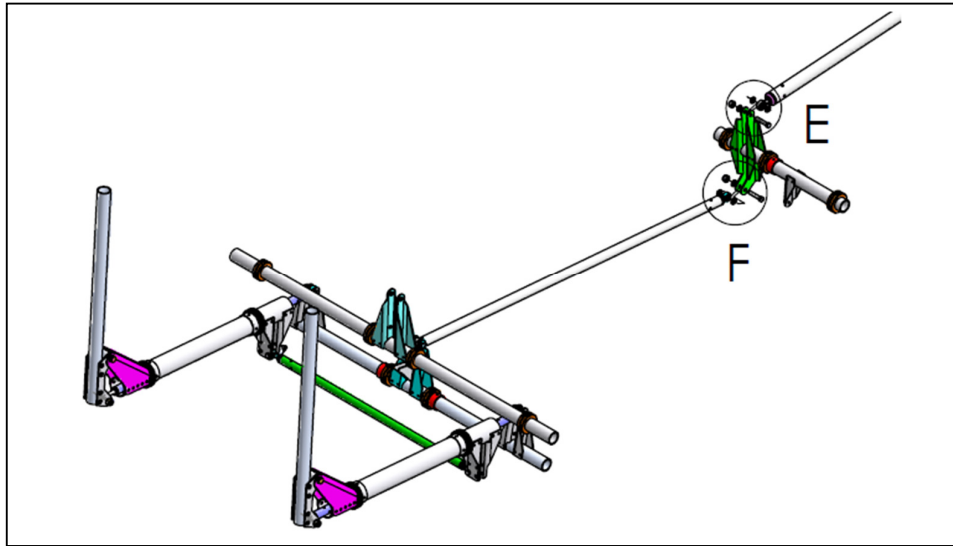

Figure 26
Step 8. Next, the eyebolts seen in Detail E and F in Figure 26 will need to be inspected and replaced if found to be of *noncompliant*. To access these in the Sling 4 TSi, remove the rear seats. To do this follow the instructions in the applicable MAM shown in the table below: